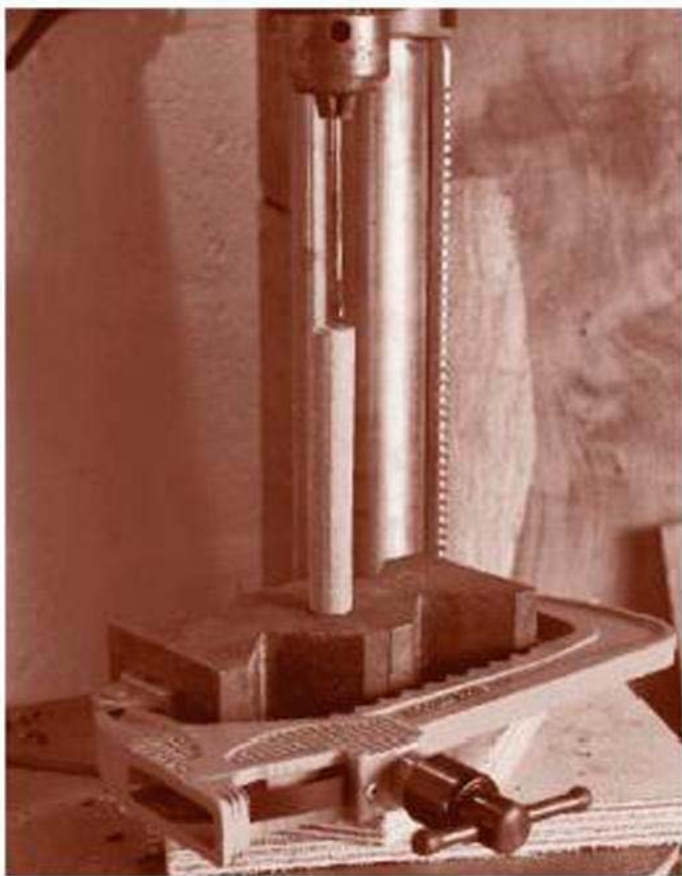

FIGURE 1-11
- 4** Run a $\frac{1}{8}$ "-diameter hole down through the length of the dowel. Bore the hole down into one end—to the full length of the bit—and then turn the wood over and repeat the procedure for the other end (Fig 1-11).